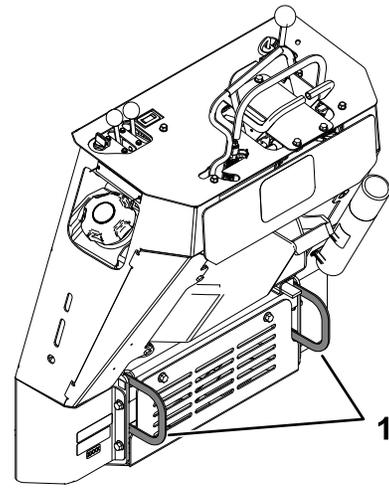
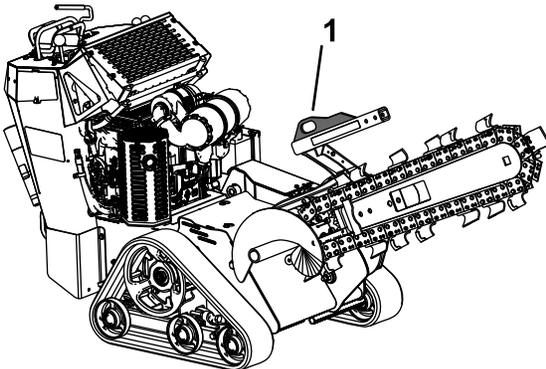

Figure 18
Figure 17
3. Secure the machine to a trailer with chains or straps using the tie-down/lift loops at the front and rear of the machine (Figure 17 and Figure 18). Refer to your local ordinances for trailer and tie-down requirements.
You can lift the machine using the tie-down/lift loops as lift points (Figure 17 and Figure 18).